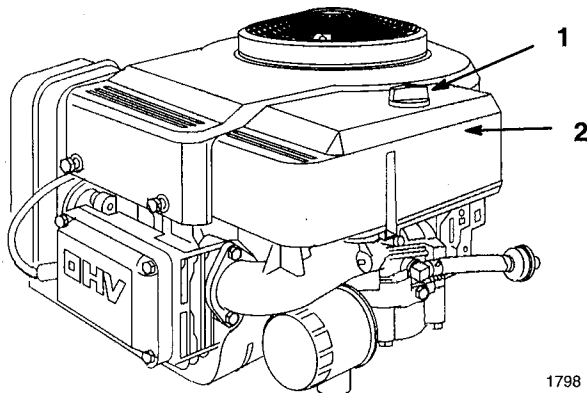

Figure 27
3. Clean around the air cleaner to prevent dirt from getting into the engine and causing damage. Unscrew the knob and remove the air cleaner cover (Fig. 27).
- Install the air cleaner cover and knob (Fig. 27). Tighten the knob snugly.